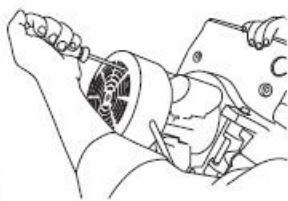

Fig. 2
**Note:** To unscrew the central screw, you can use a screw driver to block the fan on top of the motor (Fig. 2) this will hold the screw from spinning.